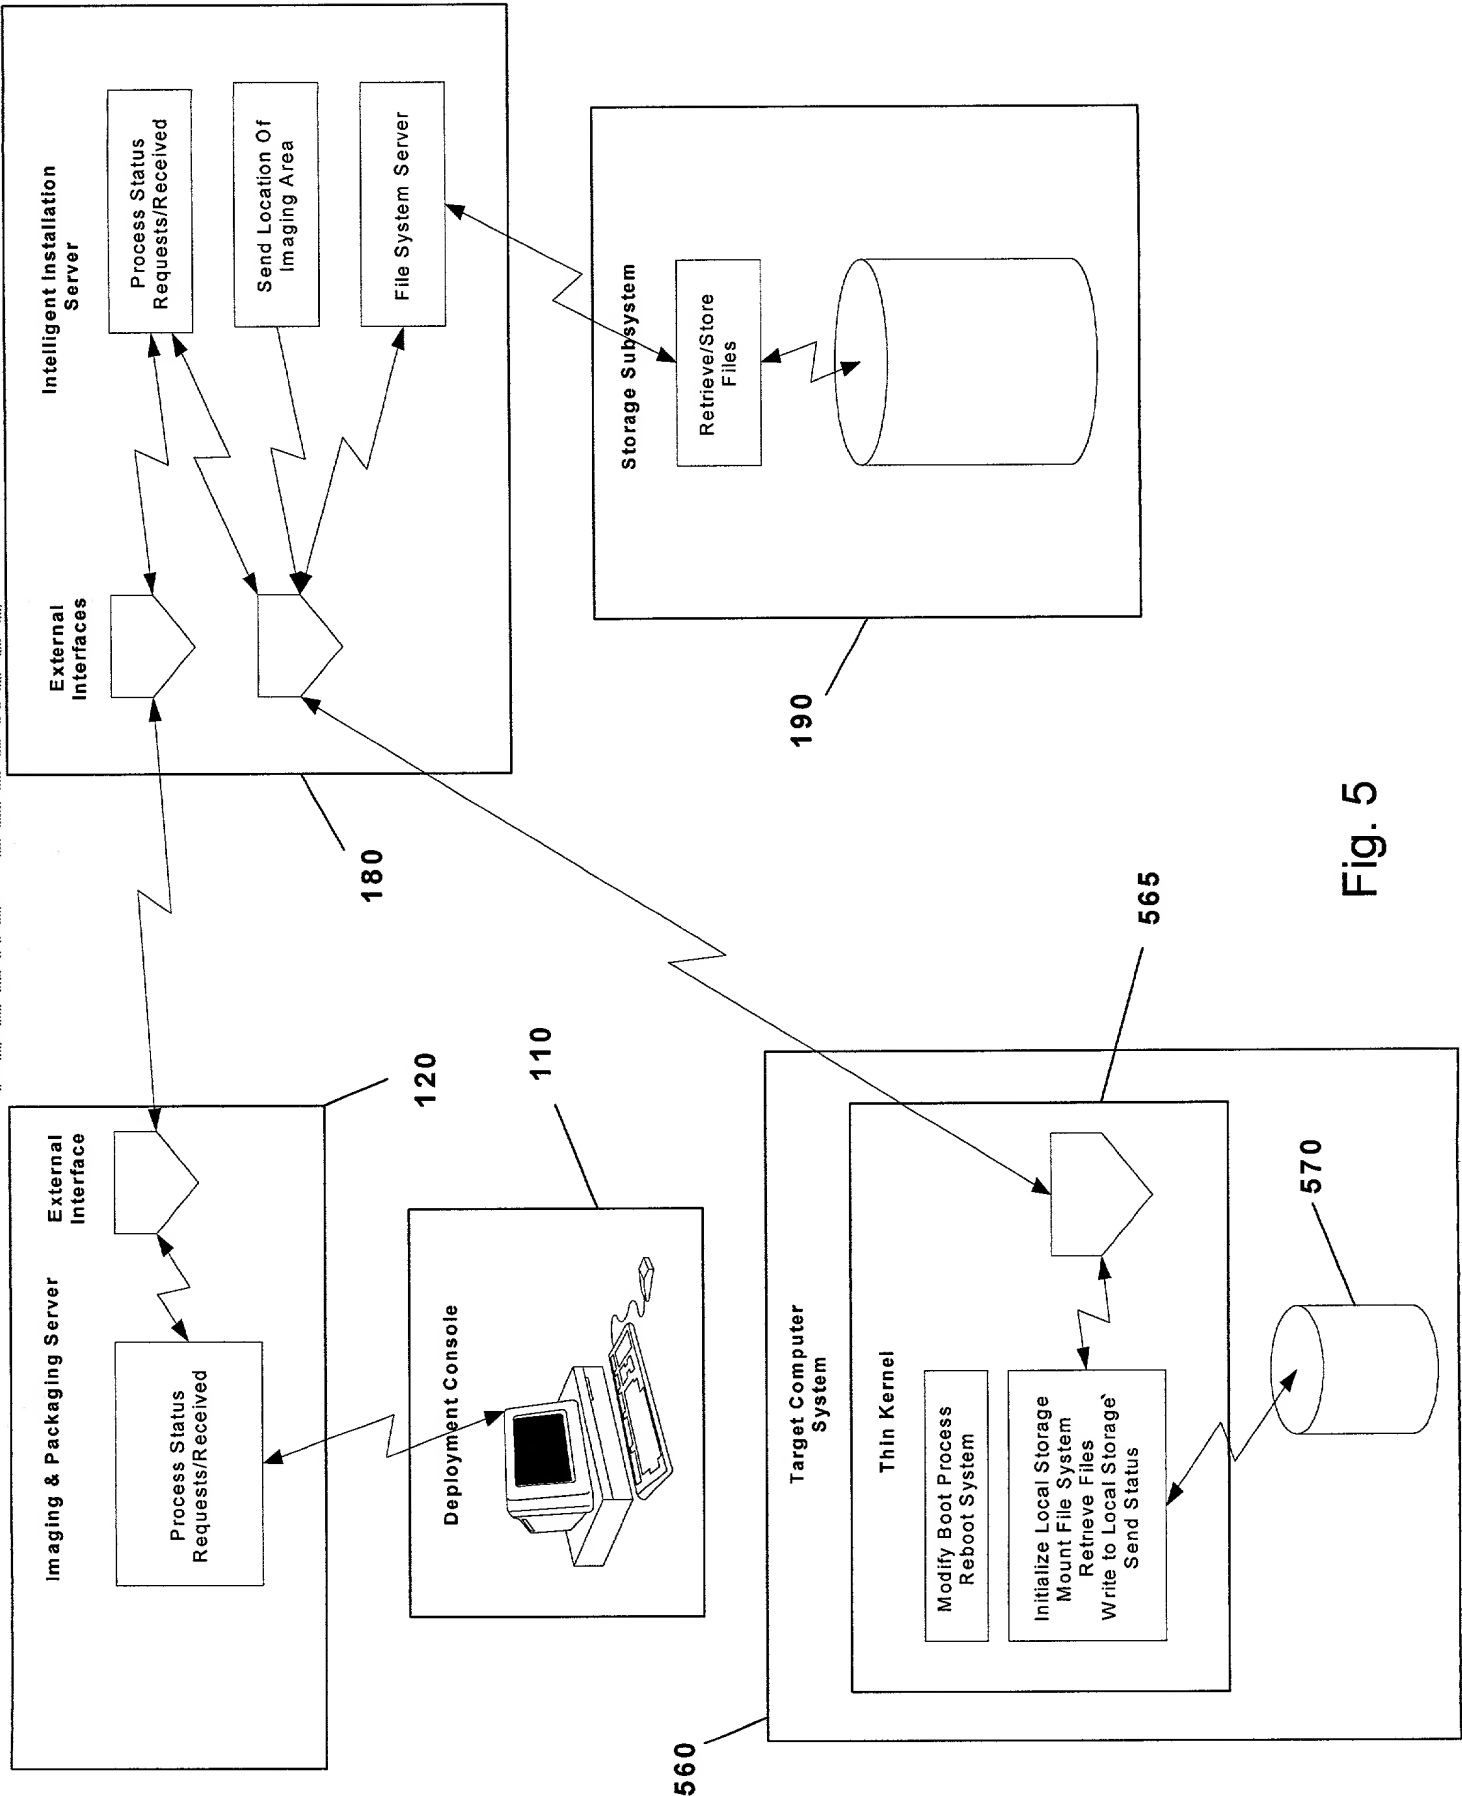

Fig. 5
FIG. 5 is a block diagram of a system for deploying a thin client to a target computer system. The system includes an Imaging & Packaging Server (120), an Intelligent Installation Server (180), a Storage Subsystem (190), a Deployment Console (110), and a Target Computer System (560). The Imaging & Packaging Server (120) includes an External Interface and a Process Status Requests/Received block. The Intelligent Installation Server (180) includes External Interfaces, a Process Status Requests/Received block, a Send Location Of Imaging Area block, and a File System Server block. The Storage Subsystem (190) includes a Retrieve/Store Files block and a storage cylinder. The Deployment Console (110) is represented by a computer icon. The Target Computer System (560) includes a Thin Kernel block with sub-blocks: Modify Boot Process Reboot System, Initialize Local Storage Mount File System, Retrieve Files, Write to Local Storage, and Send Status. It also includes a storage cylinder (570). Arrows indicate data flow: from the Imaging & Packaging Server (120) to the Intelligent Installation Server (180); from the Intelligent Installation Server (180) to the Storage Subsystem (190); from the Storage Subsystem (190) to the Target Computer System (560); from the Deployment Console (110) to the Intelligent Installation Server (180); and from the Target Computer System (560) to the Intelligent Installation Server (180).